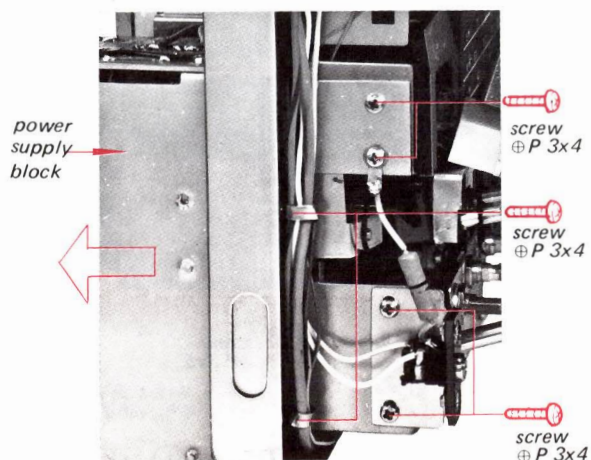

Fig. 2-17
1. Remove the six screws shown in Fig. 2-17 and pull the power supply block in the direction shown by the arrow.